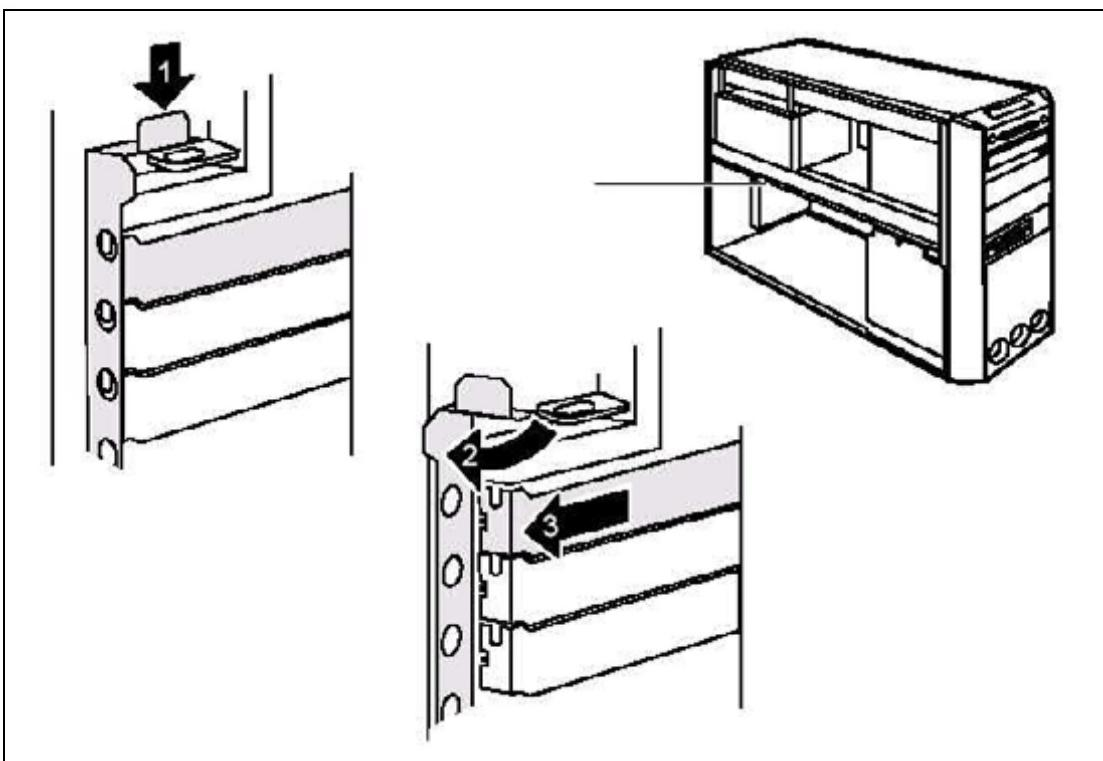

Fig. 59: Replacing a PCI board\_3
7. Press the unlocking mechanism (1/Fig. 59 / p. 104) down and open the locking rail (2/Fig. 59 / p. 104). The word "PRESS" is embossed on the unlocking mechanism.
10. Remove the board from the slot (3/Fig. 59 / p. 104).
- 2. Press the unlocking mechanism (1/Fig. 59 / p. 104) down and open the locking rail (2/Fig. 59 / p. 104). The word "PRESS" is embossed on the unlocking mechanism..